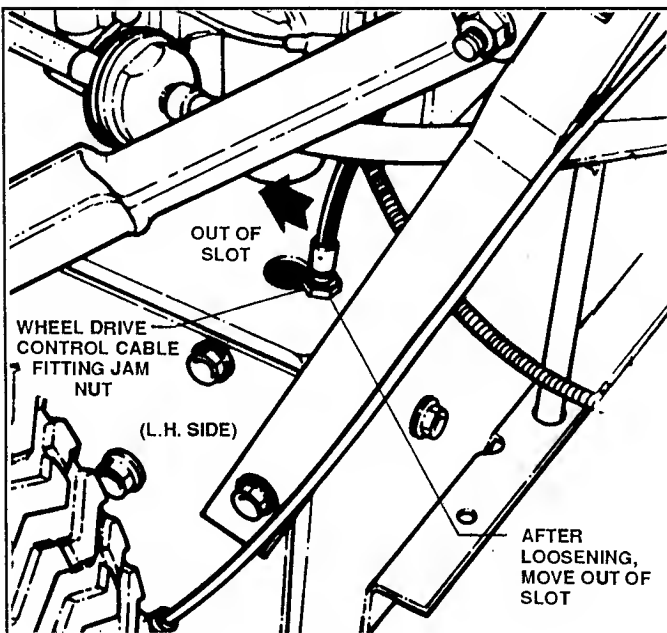

FIGURE 15
2. Loosen fitting jam nut for the WHEEL DRIVE CONTROL cable, slide fitting out of slot, then disconnect idler spring from the idler bracket. See Figure 15.